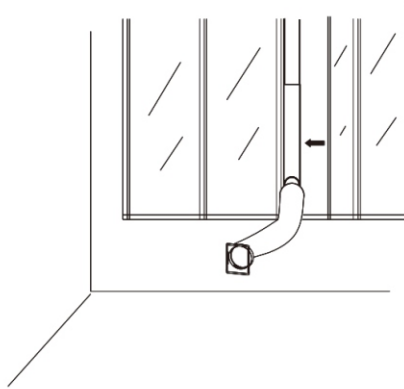

Fig.7
8. Install exhaust air duct, window kit and their accessories onto window, then close the window according to arrowhead direction in Fig7 drawing to press window kit tightly.